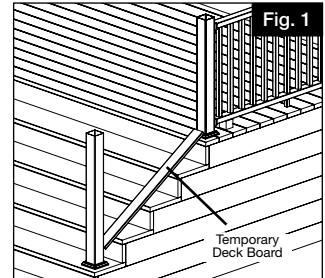

Fig. 1
1. Measure distance between post from inside corners (Fig. 1) that will be using the pre-molded adapter and the next post. Subtract $\frac{3}{4}$ " from that distance and that will be the length you will need to cut your top and bottom rails (Fig. 1).
Temporarily secure a deck board ($5/4"$) to your stair treads to determine the spacing between the nose of the stairs and your bottom rail (Fig. 1).